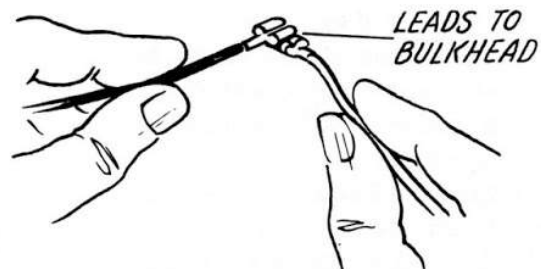
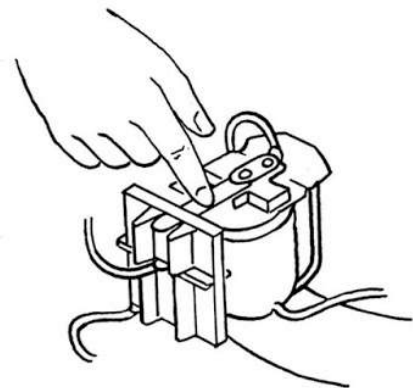

Fig. 5
Fig. 6
- e. Close circuit by placing ends of two lead wires together. SEE FIGURE 5. If the relay fails to operate, press down on top of relay to close circuit. SEE FIGURE 6. If the motor fails to operate, the motor should be checked for defective field and armature.